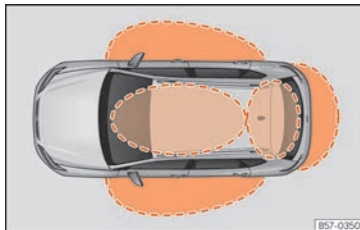
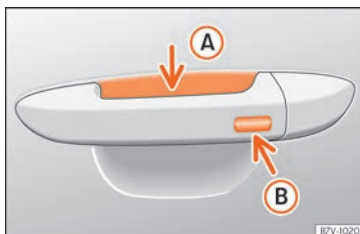

Fig. 78 Keyless Access: proximity zones.
Fig. 79 Door handle: sensor surfaces
>>> Fig. 79
Keyless Access is a key-free locking and ignition system to unlock and lock the vehicle without actively using its key. To do this, all that is required is to have a valid vehicle key in the detection area where you are attempting to access the vehicle »» Fig. 78 and to touch one of the sensor surfaces on the door handles »» Fig. 79 or operate the *softtouch*/handle on the rear lid »» page 106 »» ❶.
If a valid key is in the proximity of the car, »» Fig. 78 the Keyless Access locking and starting system gives the key entry as soon as one of the sensor surfaces on the door handles is touched or the *softtouch*/handle on the rear lid is operated.
- Grip one of the front door handles. When you do this, you touch the sensor surface »» Fig. 79 ❶ (arrow) of the handle and the vehicle unlocks.
- Touch (once) the locking sensor surface »» Fig. 79 ❷ (arrow) on one of the front door handles. The door that is used must be closed.
- Touch (once) the sensor surface »» Fig. 79 **B** (arrow) on one of the front door handles. The vehicle locks with the “Safe” security system »» page 101. The door that is used must be closed.
- Touch (twice) the sensor surface »» Fig. 79 **B** (arrow) of one of the front door handles to lock the vehicle without activating the “Safelock” security system »» page 101.
When the vehicle is locked, the rear lid automatically unlocks on opening if there is a valid vehicle key in the proximity zone »» Fig. 78.
- Push the central locking button  on the remote control and touch the locking sensor surface of the driver door handle »» Fig. 79 **B** (arrow) within the following 5 seconds. Do not grasp the door handle; otherwise the vehicle will not unlock. Deactivation is also possible if the vehicle is locked through the driver's door lock.
To close all the electric windows and the sunroof using the **comfort function**, keep a finger for a few seconds on the locking sensor surface »» Fig. 79 **B** (arrow) of the door handle until the windows and roof have closed.
The sensor surfaces on the door handles could engage if hit with a water jet or high pressure steam if there is a valid vehicle key in the proximity. If at least one of the electric windows is open and the sensor surface »» Fig. 79 B (arrow) on one of the handles is activated continuously, all windows will close.